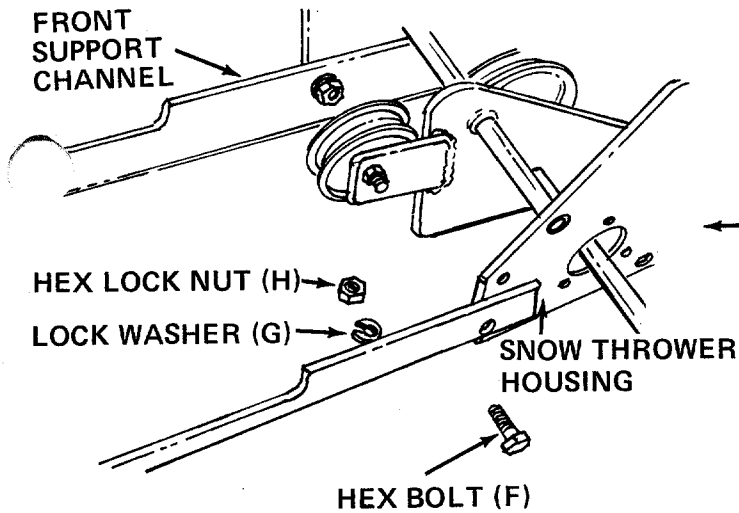

FIGURE 6
- Assemble the preassembled front support channel to the snow thrower housing. Place the front support channel against weld plates on housing. Right hand side of front support channel is to the outside of the weld plate. Left hand side is to the inside of weld plate. See figure 6. An adjustable wrench and a 3/4 wrench are required. **Tighten securely.**